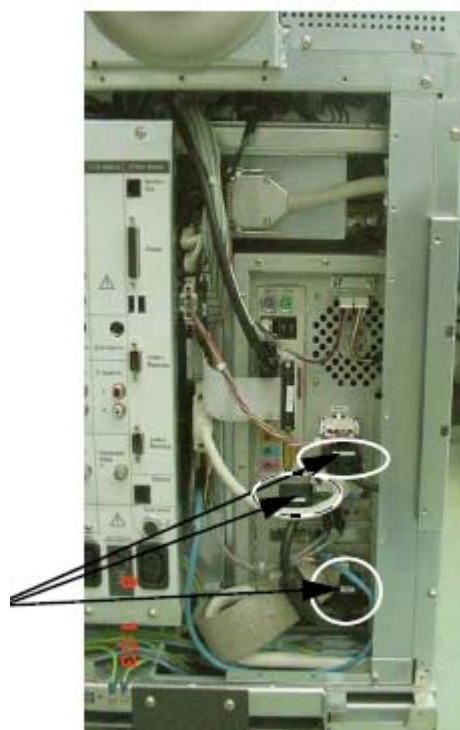

Figure 7-37 Reseating Monitor Cable.
- 4.) Locate the two connectors as shown in the Figure 7-37 on page 72 .